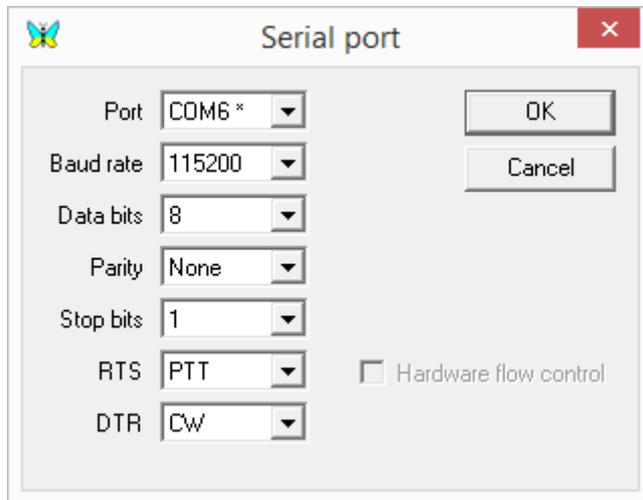

Figure 18: This is the sub-menu “Serial port” of “Details”, see Figure 17.
- PTT & CAT Interface: call up” COM6 (115200)” via Details -> Serial Port which should read (*Figure 18*, next page):